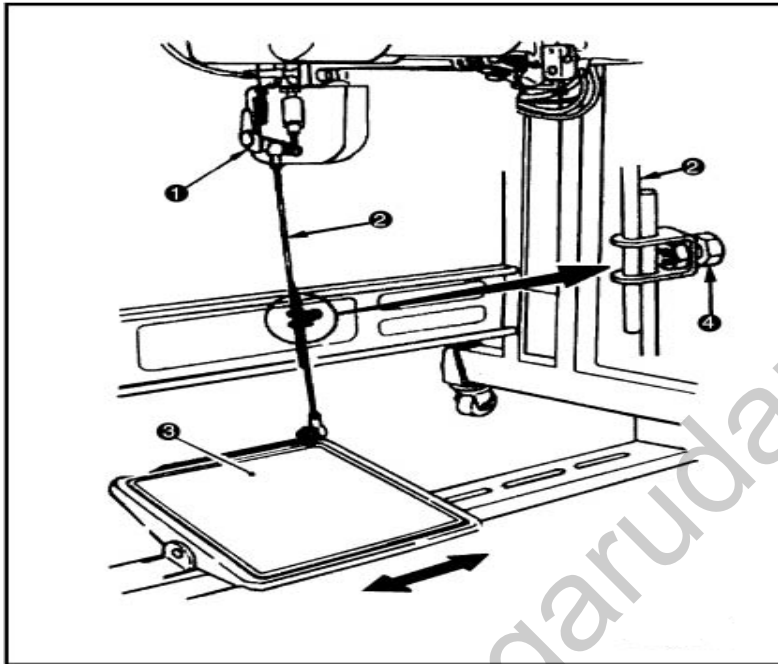

Fig. 31
Move the pedal (3) to the right or left as indicated by arrows. Speed regulator lever (1) of the motor and the rod (2) should be perpendicular to the pedal. See fig. 31
Inclination of the pedal can be easily adjusted by change of the rod length. Loosen the set screw (4) and set the required length of the rod. See fig. 31